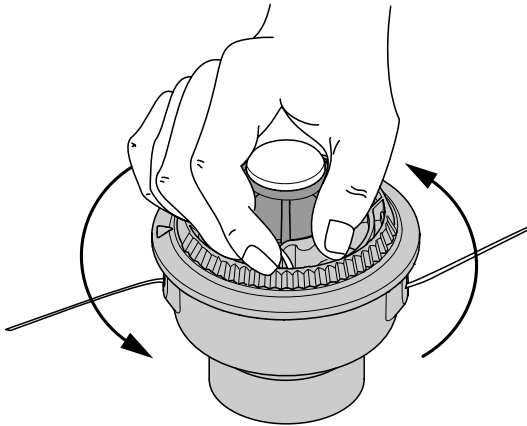

Fig. 20
- Hold the outer spool. Wind the inner reel counterclockwise until approximately four (4) inches (102 mm.) of line remain (Fig. 20).